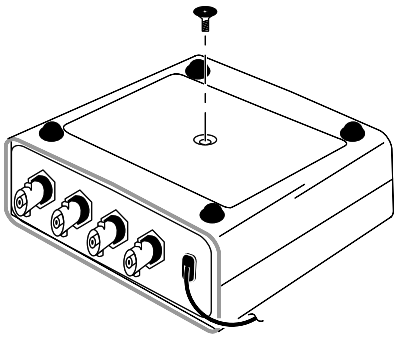
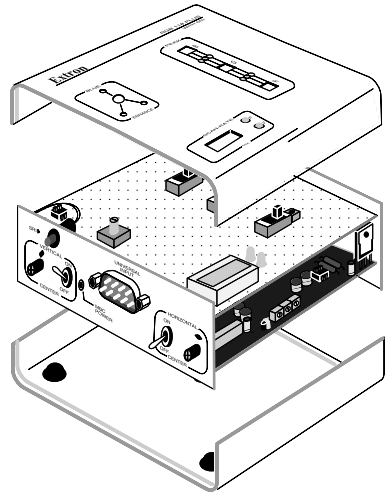

Figure 1
Figure 2
To open the RGB 118 or RGB 118 PLUS case, remove the screw from the bottom of the case (see Figure 1 on facing page). This enables removal of the top and bottom halves of the case as shown in Figure 2.
The SRI feature of the RGB 118 PLUS is used to determine the approximate horizontal and vertical scan frequencies of video and computer monitors. To use the SRI, hold the RGB 118 PLUS with the feet against the face of the monitor and near the center of the screen as shown in Figures 1 and 2 below.
To view the vertical scan frequency, hold the unit so the LCD readout is on a vertical plane (red SRI button is in the uppermost position) as shown in Figure 1. Wait until the green Vertical (V) LED turns on, then push and hold the red SRI button in until a readout is obtained.
To view the horizontal scan frequency, hold the RGB 118 PLUS so the LCD readout is on a horizontal plane (normal viewing) as shown in Figure 2. When the red Horizontal (H) LED turns on, push and hold the red SRI button in until a readout is obtained.